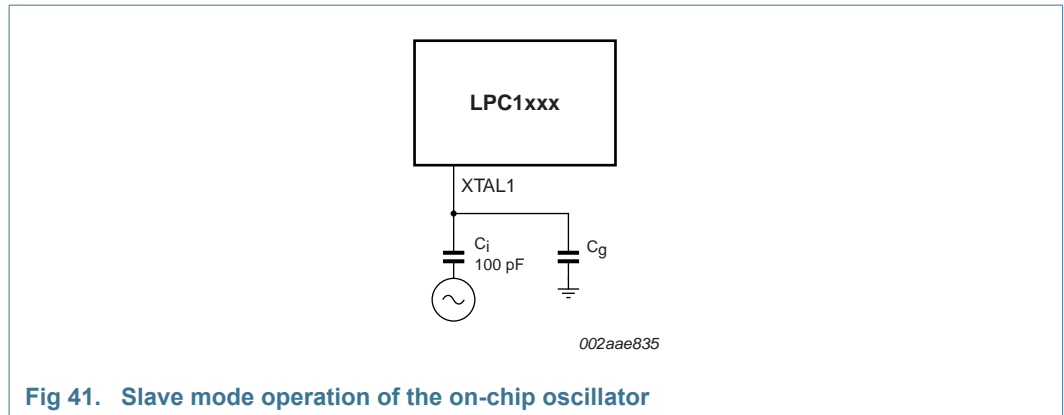

Fig 41. Slave mode operation of the on-chip oscillator
- In slave mode, couple the input clock signal with a capacitor of 100 pF (C_C in Figure 41), with an amplitude of at least 200 mV (RMS). The XTAL2 pin in this configuration can be left unconnected.
An external clock can be connected to RTCX1 if RTCX2 is left open. The recommended amplitude of the clock signal is $V_{i(RMS)} = 100$ mV to 200 mV with a coupling capacitance of 5 pF to 10 pF. $V_{i(RMS)}$ must be lower than 450 mV. See Figure 41 for a similar slave-mode set-up that uses the crystal oscillator.